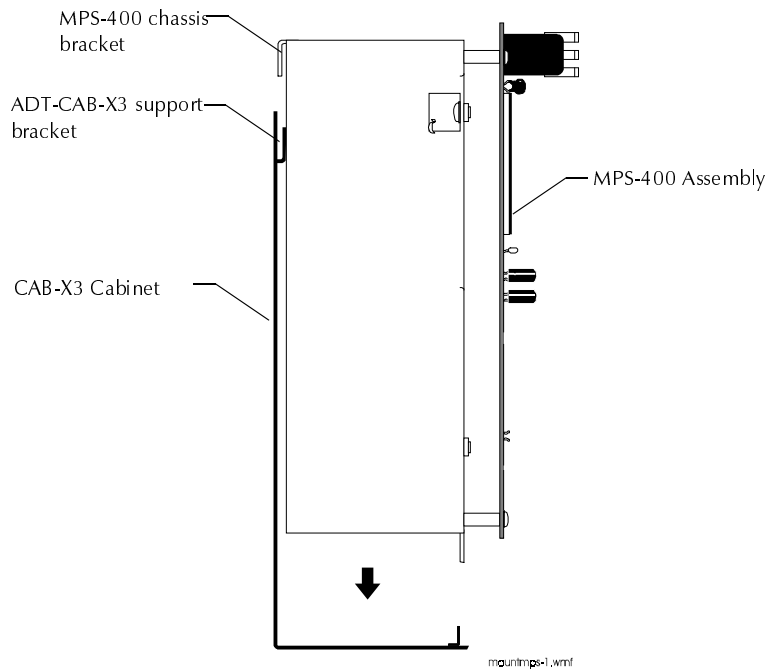
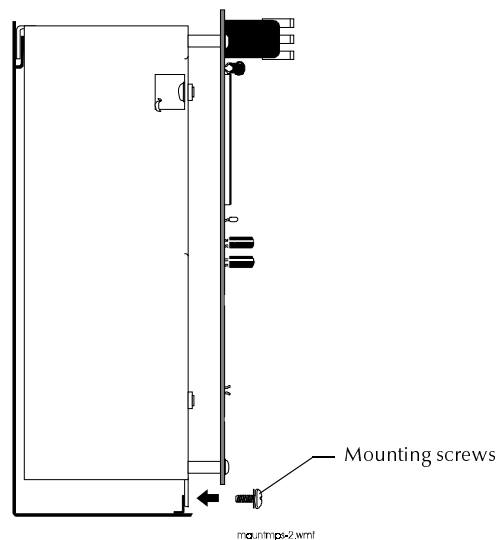
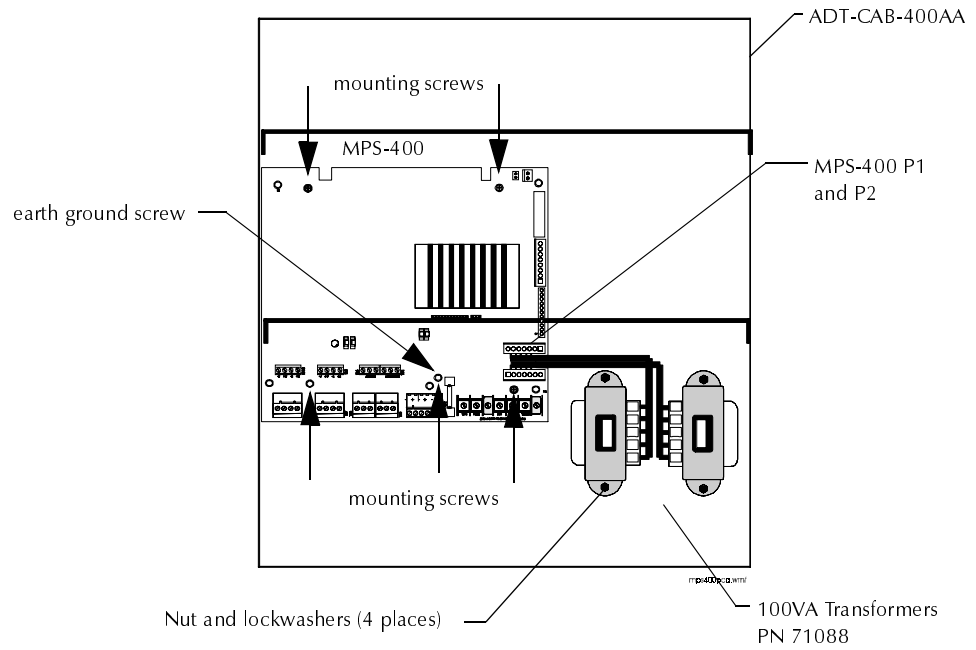

Figure 2-9 Placing an MPS-400 onto a Support Bracket
Figure 2-10 Mounting an MPS-400 into an ADT-CAB-X3
Figure 2-11 Mounting an MPS-400RB into an ADT-CAB-400AA
This section contains instructions for mounting an MPS-400 into an ADT-CAB-X3 (Figure 2-9 and Figure 2-10) and for mounting an MPS-400 into an ADT-CAB-400AA (Figure 2-11).
1. Place the MPS-400 assembly into the cabinet so the MPS-400 chassis bracket engages the support bracket on the cabinet as shown in Figure 2-9:
2. Secure the bottom of the MPS-400 to the bottom cabinet support with the mounting screws as shown in Figure 2-10:
Figure 2-11 shows how to install an MPS-400RB and two transformer assemblies into an ADT-CAB-400AA cabinet. To mount MPS-400RB components, follow these steps:
Figure 2-11 shows how to mount an MPS-400 to an ADT-CAB-400AA cabinet: